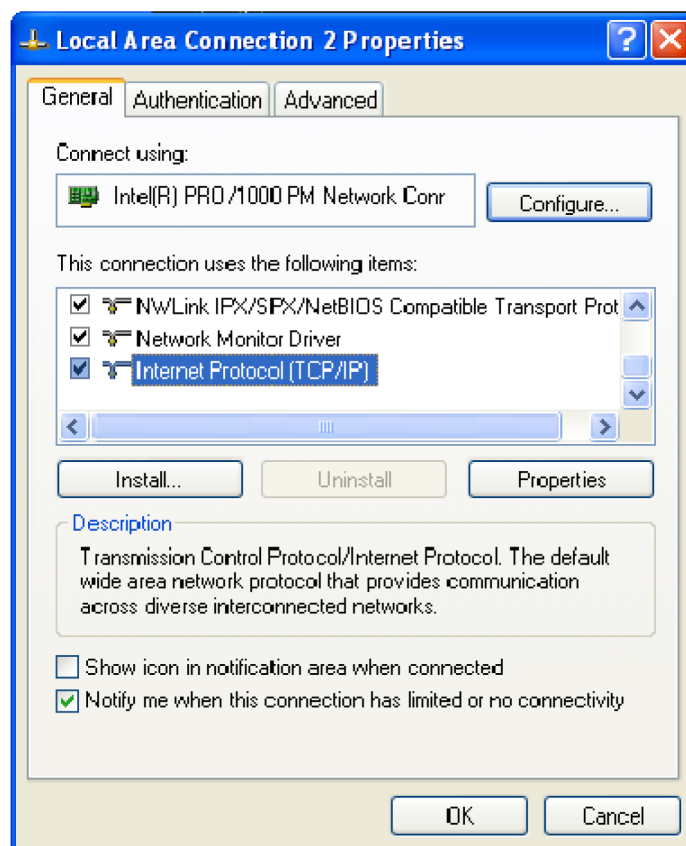

Figure 11: LAN Connection dialog box
6. Right click the Local Area Connection icon that corresponds to your local LAN card and select **Properties**. The Properties dialog box appears. (See Figure 11.)